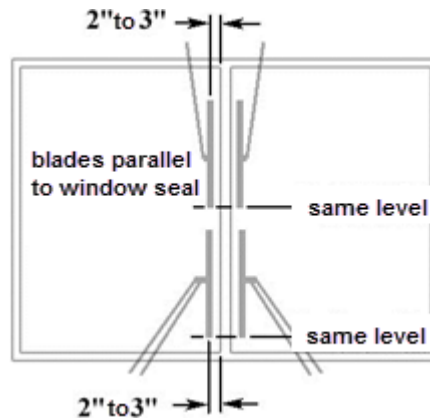

FIGURE 13
16. The wiper arms should be positioned in accordance with the diagram on the right (FIGURE 13).